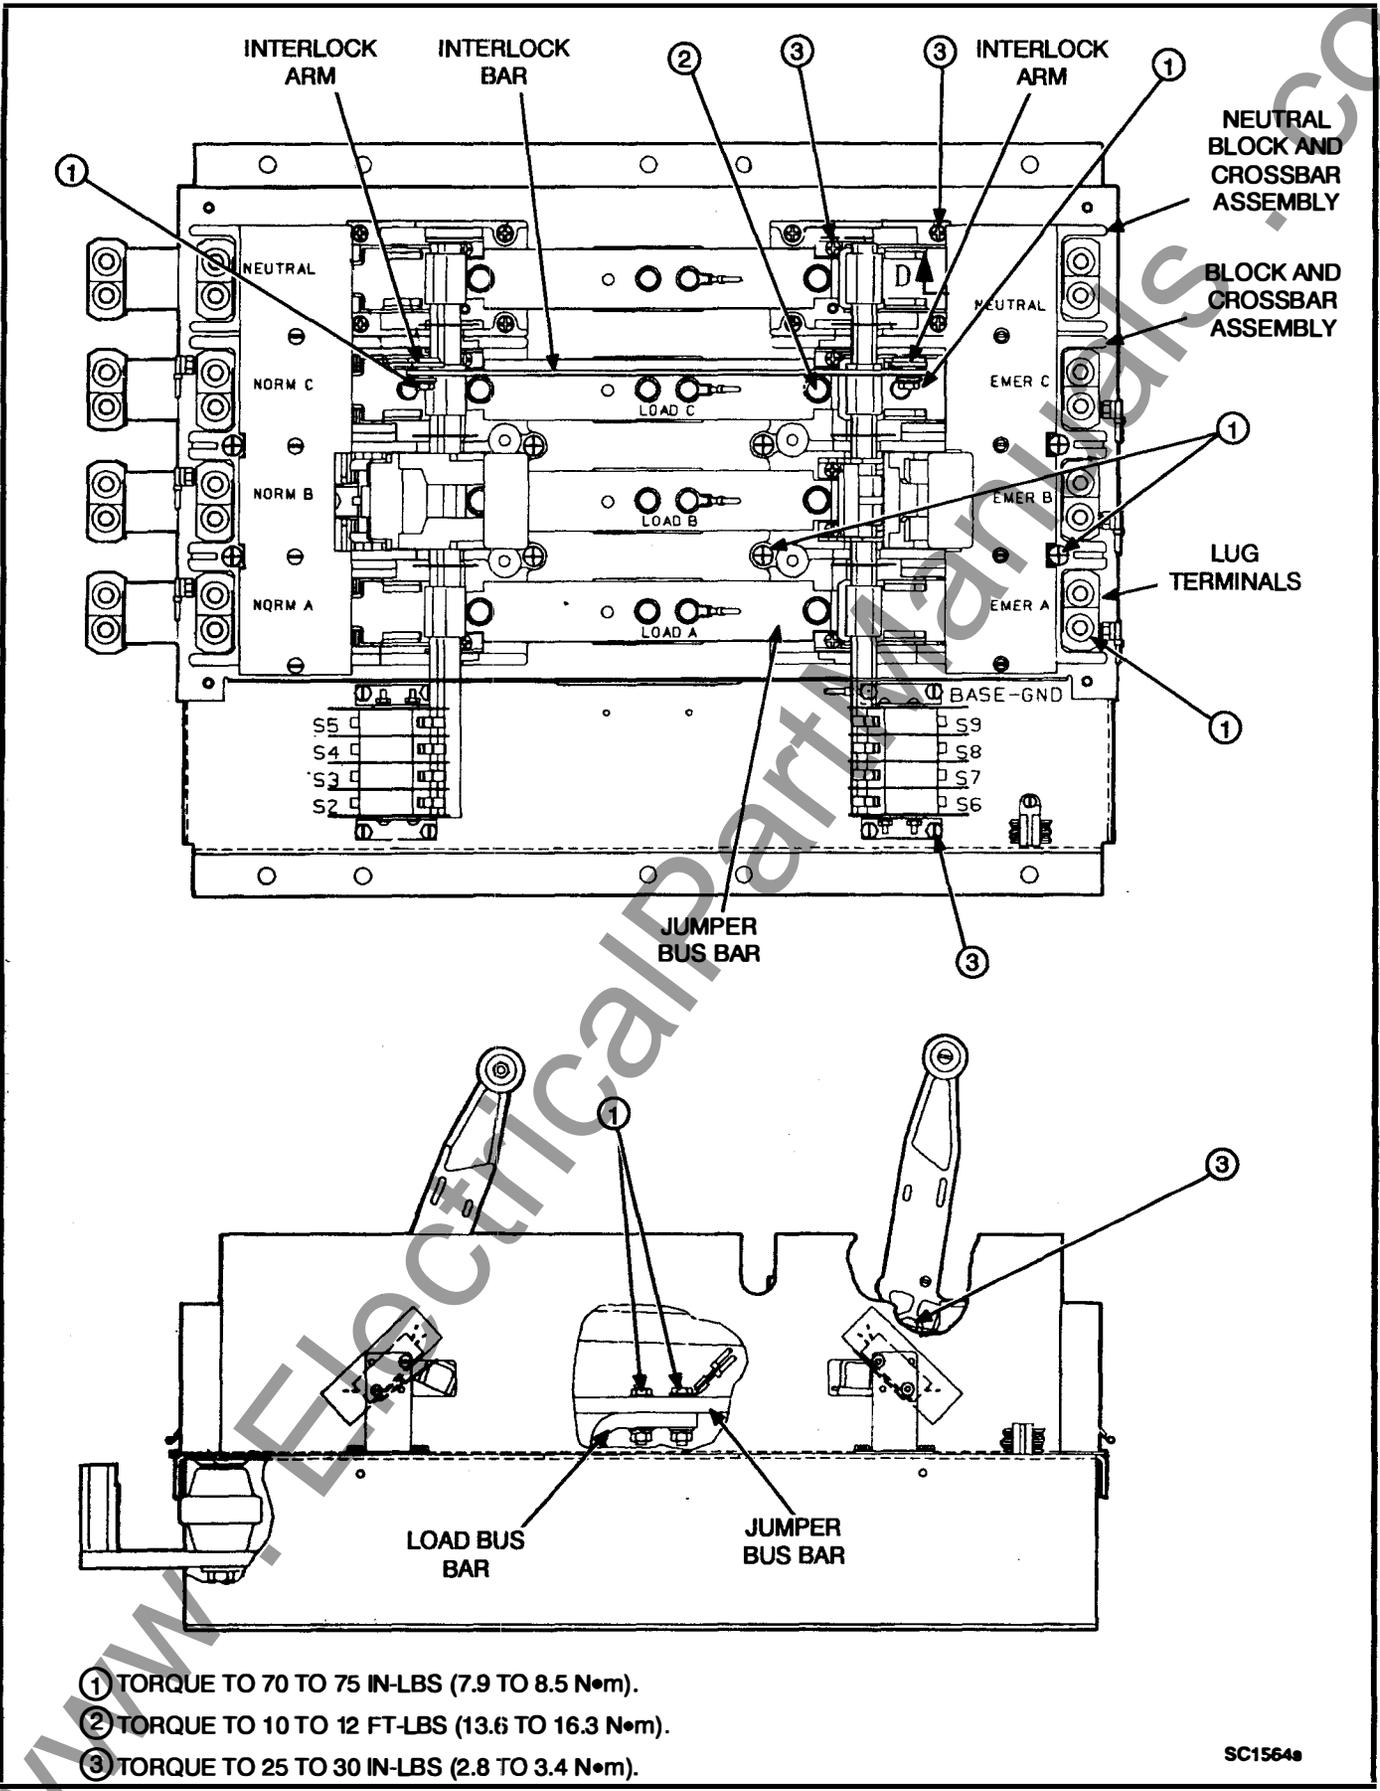

FIGURE 4-14. 4-POLE SWITCH ASSEMBLY (300 TO 600 AMPERES)
9. Remove the four screws, lock washers, and flat washers that secure the block and cross-bar assembly to the base. **On 4-pole switches**, remove the screw that secures the small bearing bracket to the neutral block (Figure 4-14). Remove the block and cross-bar assembly. Save the bearing bracket and screw for reuse.
10. **On 4-pole switches (Figure 4-14):** Remove the four screws that secure the block and contact assembly to the base, and lift off the block and contact assembly.